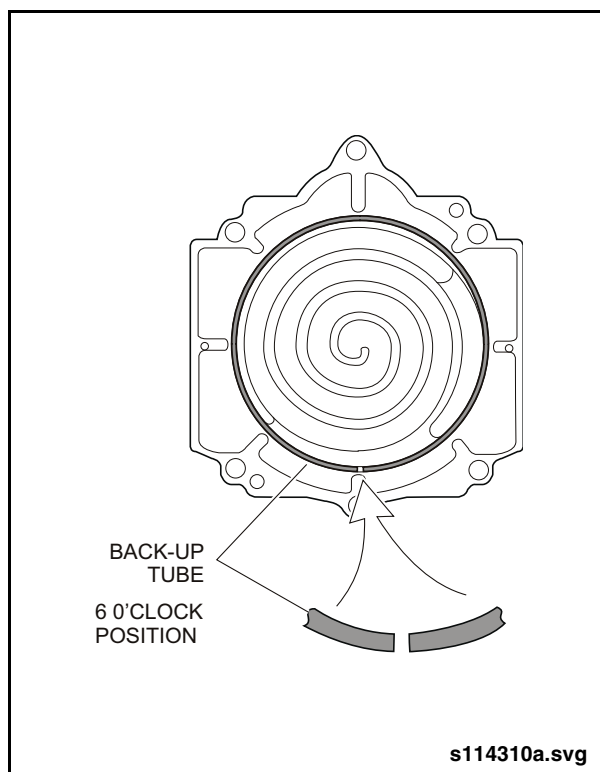

Fig. 8: Backup Tube Installation
8. Insert new backup tube in fixed scroll set. Orient split in tube to the 6 o'clock position. See "Fig. 8: Backup Tube Installation" on page 6.